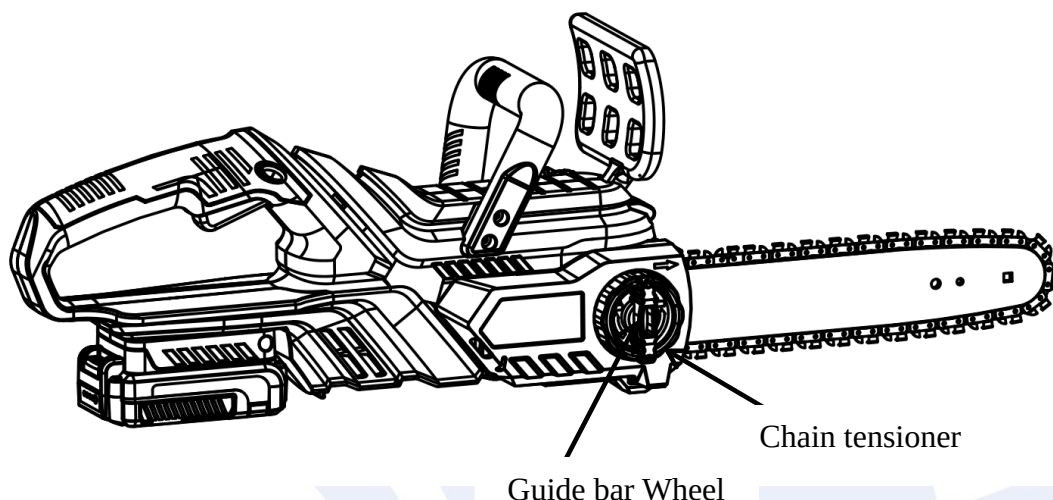

Figure 5
1. Turn the Chain tensioner about 1/2 turn counterclockwise, then turn the Guide bar Wheel clockwise to tension the chain. (See **Figure 5**)
4. After chain tension is correct, tighten chain tensioner firmly.(See **Figure 5**)